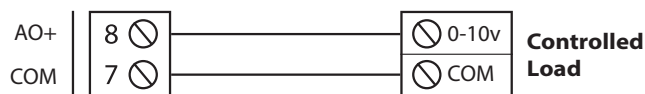

**Figure 10 - Digital output wiring using the internal power source**
- 2) Alternatively, if an external power source is not available, an additional set of 24 VAC and COM pins (#4 and #3) are provided for your convenience. These pins are internally connected to the VC2000s power source (pins #2 and #1). By using a jumper to connect the internal power source to the digital output, the load can be powered (see Figure 10).